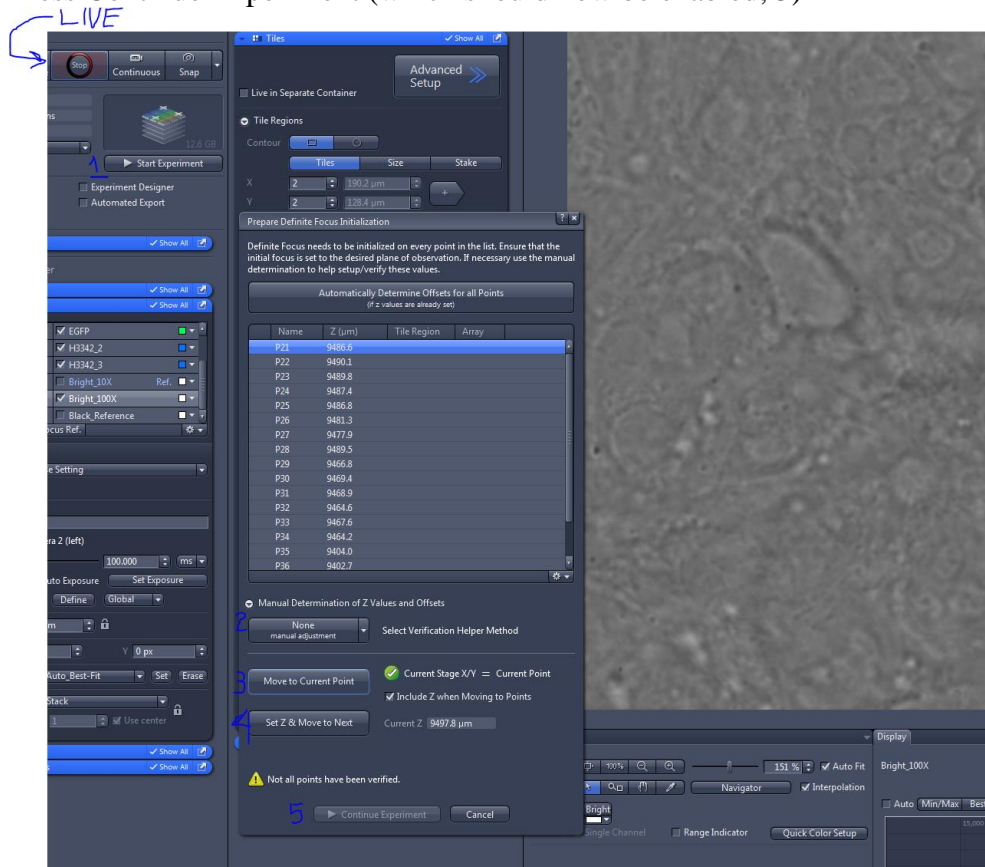

Figure 7 Manual determination of Z-values and Offsets
- 2.5. Adjust focus and click on "Set Z & Move to Next" (4) (Figure 7)